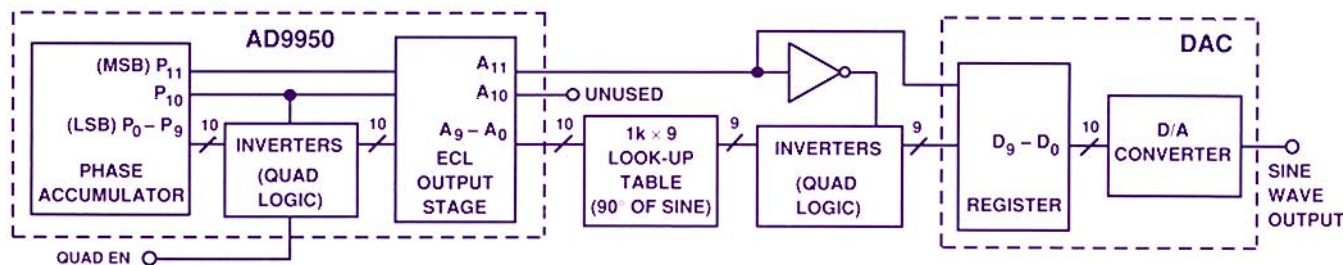

Figure 4. Components of DDS system.
**APPLICATION—A Complete DDS System:** A complete DDS system based on the AD9950 phase accumulator uses external memory for the lookup table that holds the digital sine values (Figure 4). Because of the inherent symmetries of a sine wave, only 90° of the waveform need be stored in the lookup table. “Quad” logic within the AD9950 counts through the addresses for 0 to 90° of the waveform, then counts backwards for 90° to 180°; for the 180 to 360° phase points, an inverting signal from the AD9950 directs the discrete logic associated with the DAC, causing it to invert its output. Thus, the full 360° of output is available.